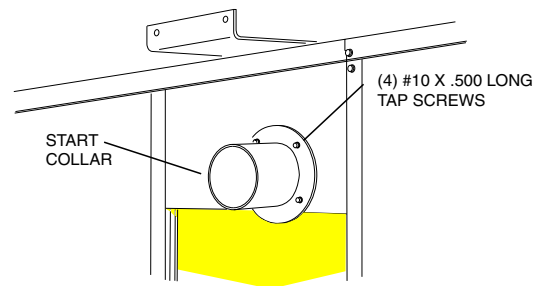

FIGURE 4 : START COLLAR INSTALLED
6. Remove the paper backing from the flange of the start collar, (Item 4), and place the start collar over the exhaust opening on the top gas heat panel as shown in Figure 4. Make sure the holes provided around the flue opening correspond to the hole pattern in the start collar. Notch the collar as required to clear adjacent screws. Use four (4) #10 x.500 long tap screws, (Item 10), to secure the start collar to the top gas heat panel.